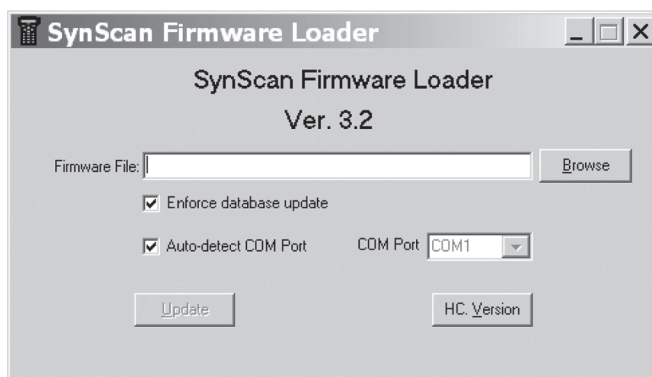

Figure 4. Application window for SynScan firmware loader.
2. On the computer, run the SynScanFirmwareLoader.exe file. An application window is shown in **Figure 4**.